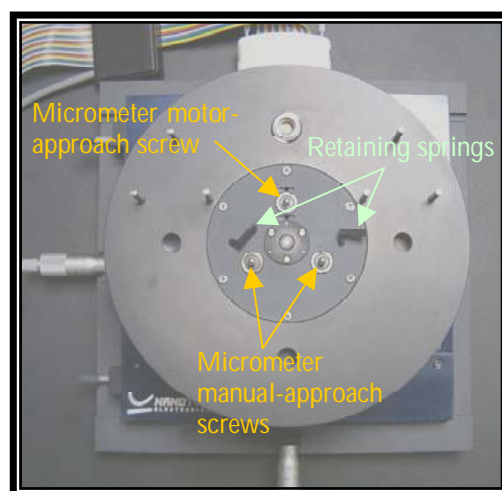

Fig. 4.18
- Turn *Off* the laser (by clicking Off in the Photodiode window) and place the head above the sample (the head fixes to the support screws magnetically unless you are using a MFM). Make sure not to touch any head micrometer screws, in order not to change the previous laser tune, and also make sure not to crash the tip. If there is any doubt about crashing, raise even more the support screws before placing the head. Once it is placed, you can fix the head with the two L-shaped parts anchored to the base with springs (Retaining Springs, see Fig.4.18). Three micrometer screws placed in a triangular pattern make the head support, (see Fig. 4.18). The two screws at the front can be moved by hand, while the other is motorized and controlled through WSxM (but it can be also moved by hand, pushing the motor down with one hand and moving the screw with the other. If you move it in this way, after the movement, make sure the motor is well coupled to the micrometer. If not, the motor will not move the micrometer).